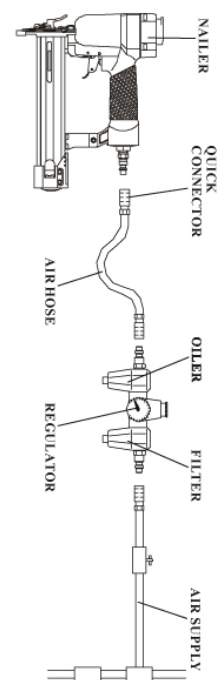

Figure 1
Your air tool is fully assembled when you receive it. Before using it, attach the air line and desired air system accessories. See Figure 1 for the recommended accessories and connection order. Be sure the air hose is depressurized when installing or removing adapters to the air line.
3. Connect the tool to the air supply (see Figure 1 for recommendations).
1. Frequent, but not excessive, lubrication is required for best performance. Oil added through the airline connection will lubricate internal parts. An automatic inline oiler is recommended, but oil may be added manually before every operation or after about 1 hour of continuous use. (see Figure 1) Only a few drops of oil at a time are necessary. Too much oil will collect inside the tool and be blown out during the exhaust cycle. **ONLY USE PNEUMATIC TOOL OIL.** Do not use detergent oil or additives, as these lubricants will cause accelerated wear to the seal in the tool.